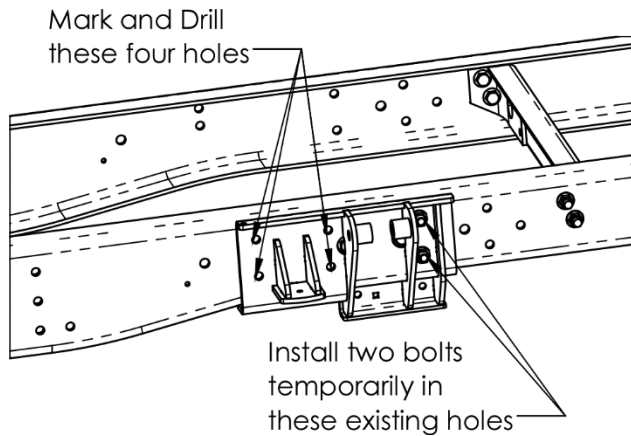

Figure 7. Location of Drilling Template on Driver Side of Frame (Air Ride Conversion)
13. [DS155NDLP-A and -AC Suspension] Locate the two upper strut mounts and place along the frame as shown in Figure 7 and Appendix C: Frame Drilling Locations, Figure A 1 and Figure A 2.